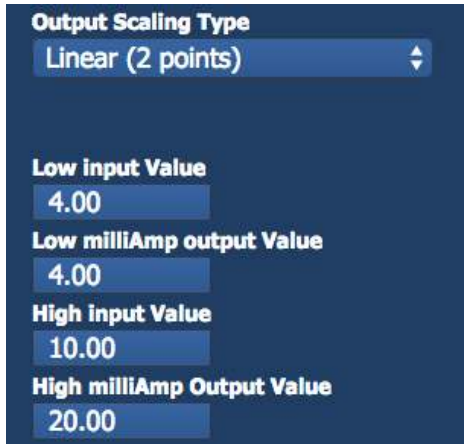

Figure 7-6 – In this example for linear (2 points) scaling a pH probe value of pH 4 outputs 4 mA and pH 10 outputs 20 mA.
- The 4-20 mA output is scaled so that the process value maps linearly into any range of 4-20 mA output. Figure 7-6 shows the example of a pH probe for which a pH value of 4.0 outputs a current of 4 mA and a pH value of 10 outputs a current of 20 mA. This scaling is useful for expanding a limited range in process values to fit the entire 4-20 mA range.